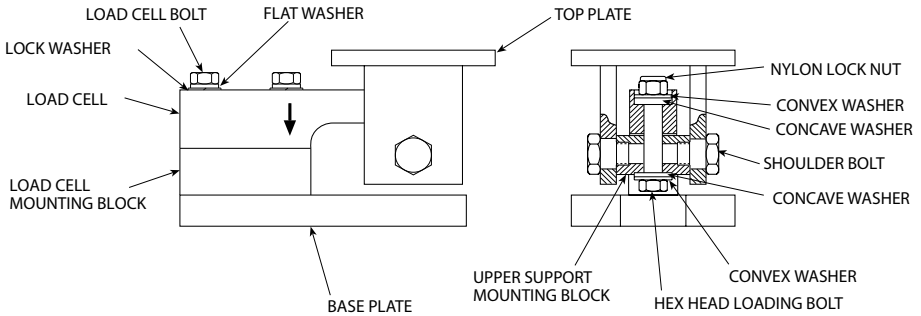

Figure 2-4. RL1900 Series Mounting Kit
12. Use these torque specs only on the bolts used to mount the load cell to the mounting block and base plate (see Figure 2-4 on page 9 for part description).